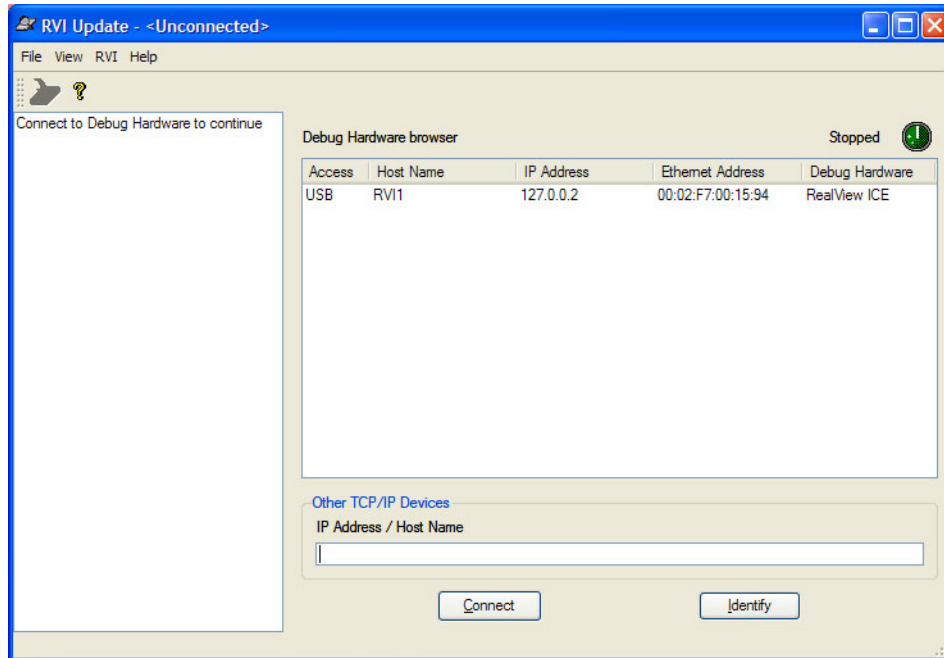

Figure 6-1. Connecting to ICE
5. Select your ICE from the list and press `Connect` (see Figure 6-1).